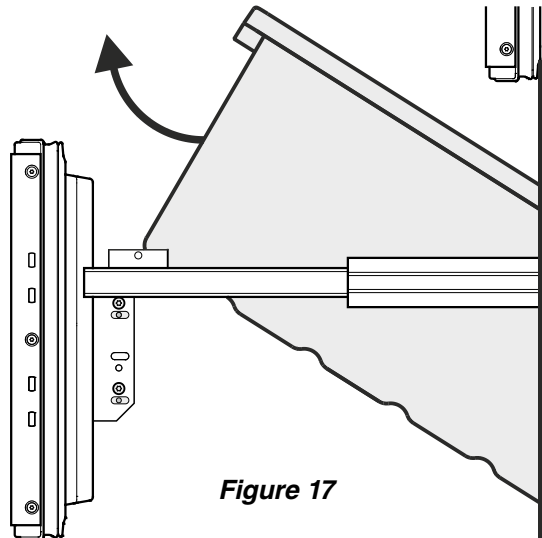

Figure 17
- Tilt the container at an angle and remove - **Figure 17**.